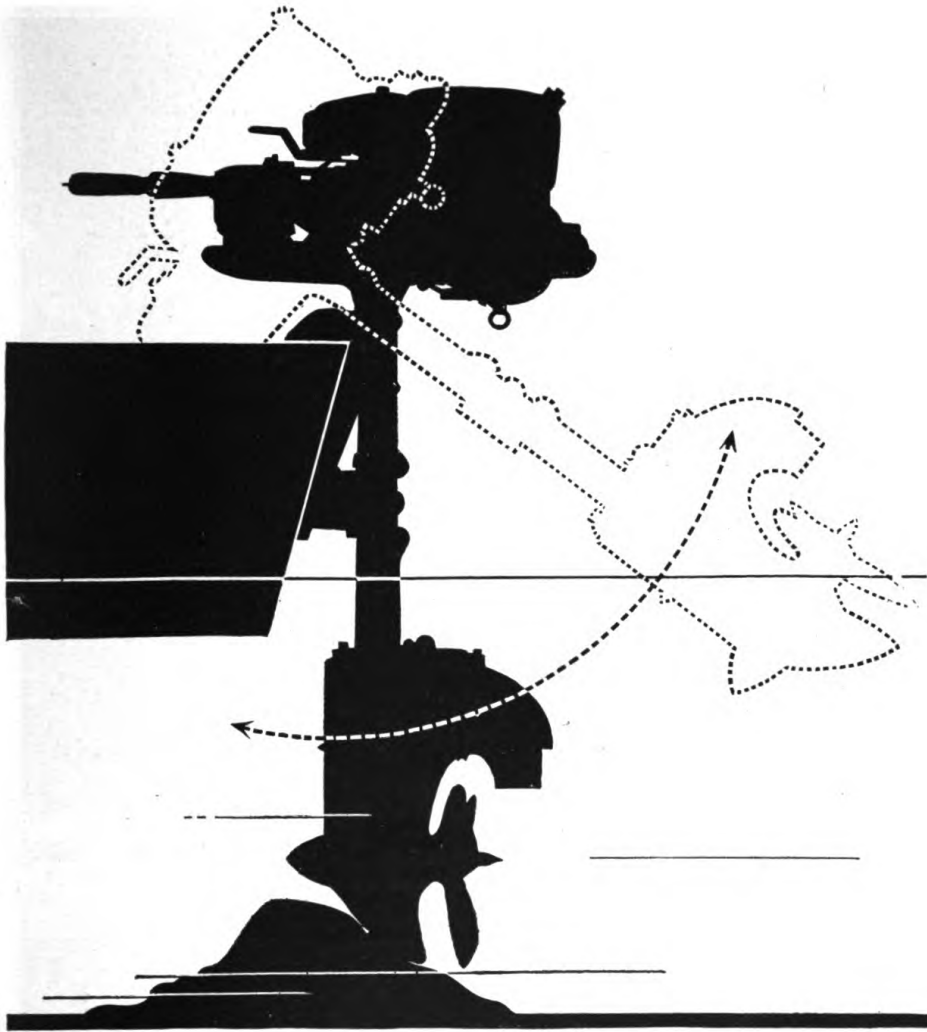

Figure 24. Action of motor upon hitting obstruction.
(3) If the propeller is tilted too close to the stern the boat is hard to control, as the bow will dig in or plow into the water. This is due to the upward thrust exerted on the stern. *With the load in the boat evenly distributed, the thrust socket should be adjusted so the line of the propeller drive is parallel to the surface of the water when the motor is at full throttle.*
(4) When the lower unit strikes an underwater obstruction, the motor tilts as shown in figure 24 to prevent damage to the boat and motor.